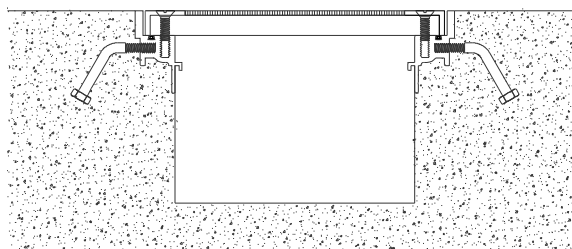

Figure 8
STEP 14. Install the tile into the cover plate recess at the time of installation of the finished floor (see Figure 8). Install the tile in accordance with the tile and adhesive manufacturers' instructions.